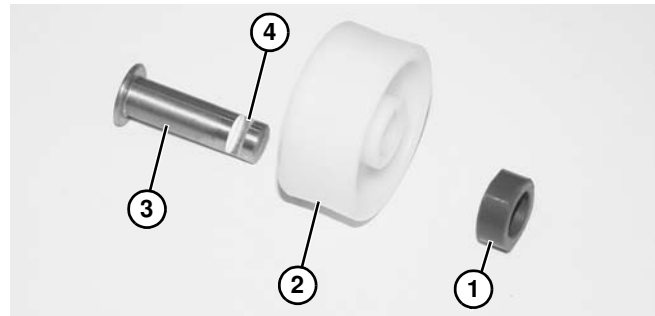

Figure 77
4. Disassemble spacer tube (Figure 77, item 1) and roller (Figure 77, item 2) from shaft (Figure 77, item 3).
Note orientation of components and notch (Figure 77, item 4) on shaft before installing assembly. Notch will be facing down to attach into retainer plate on conveyor.